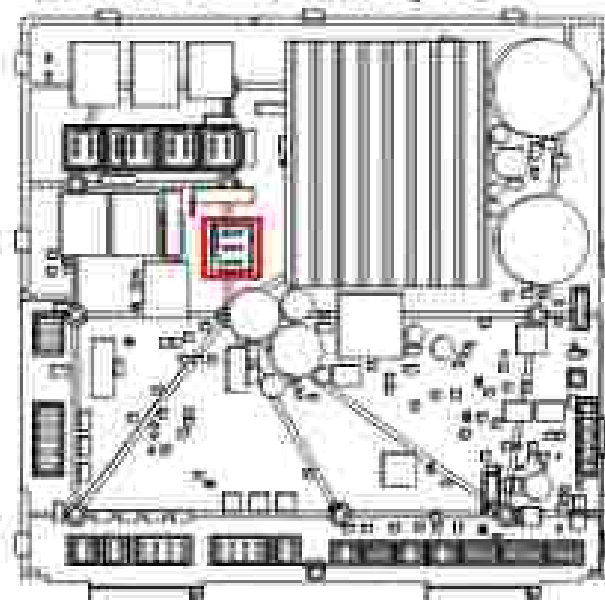

Figure 1 - Location of J5 on Appliance Control Unit (ACU)
6. Disconnect motor connector harness from J5 on the Appliance Control Unit (ACU) (see Figure 1).